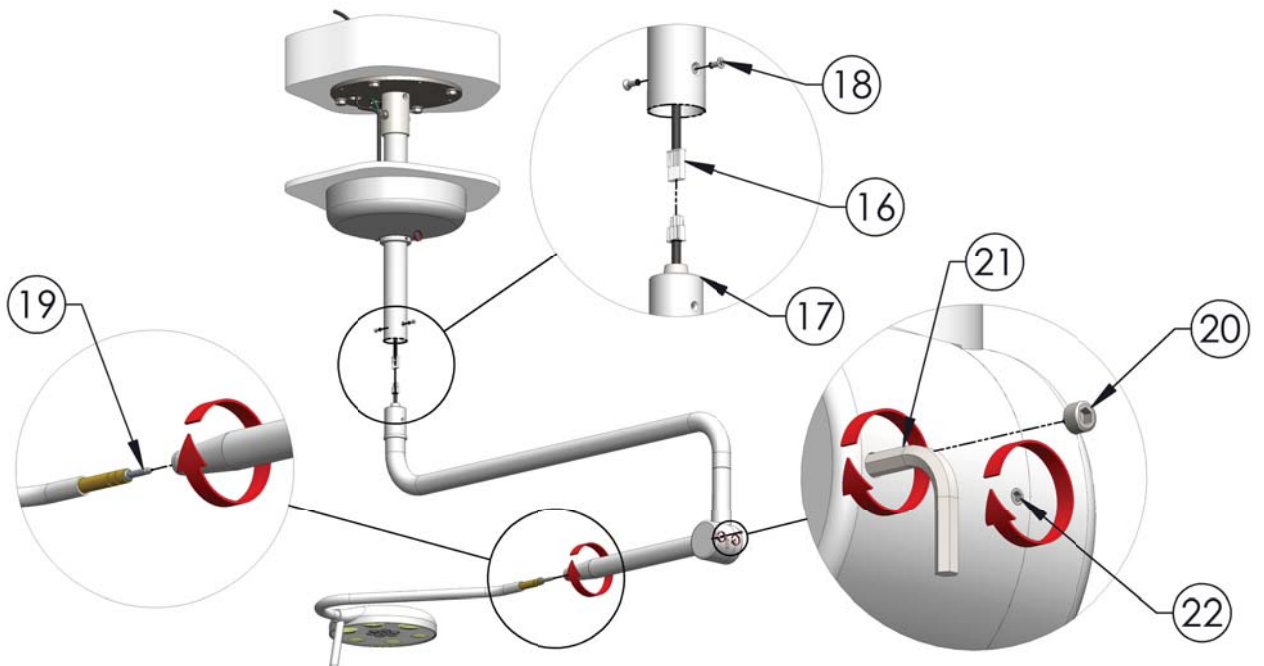

Fig. 14.0
16. Lift Phantom arm into place, and engage the 24v plugs as shown in Fig. 14.0.
17. Insert the arm bearing into the ceiling tube (taking care to align the threaded holes on the bearing sheath with the countersunk holes on the ceiling tube), as shown in Fig. 14.0.
18. Insert the countersunk head set screws as shown in Fig. 14.0.
19. Optional - remove or replace the lamp head - twist the conical end of the arm and pull the head and s-bend section, as shown in Fig.14.0.
20. Unscrew the end cap for access to the spring balance adjustment, as shown in Fig. 14.0.
21. Adjust the spring balance: using a 4mm allen key, adjust the screw inside the knuckle. Clockwise/ Tightening the screw will cause heavier engagement of the spring - this will improve 'head droop'. Anticlockwise/loosening the spring balance will fix a 'rising head' issue, as shown in Fig. 14.0.
22. Friction adjustment: Clockwise/tightening this screw will apply more friction to the arm mechanisms. The arm will require more force to move, however will not continue to move with moment. This should be set to the staff preference, as shown in Fig 14.0.